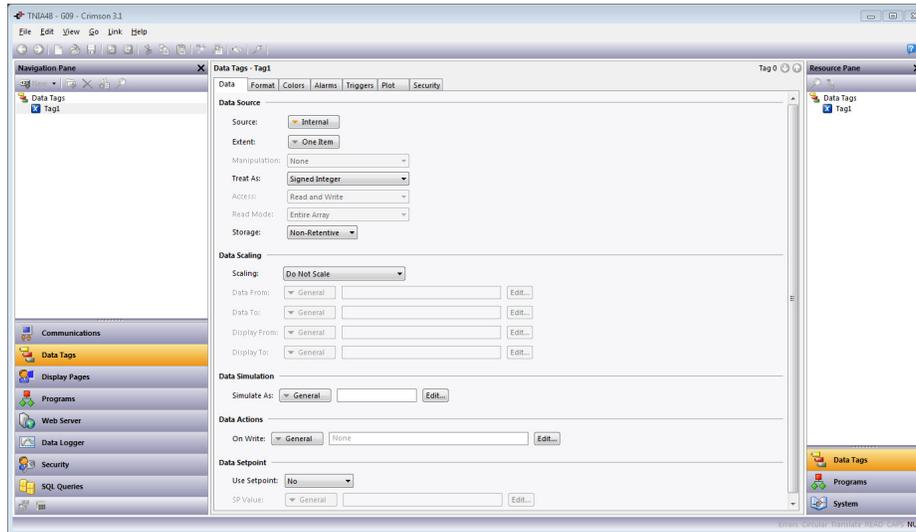

Figure 13.
1. Referring to Figure 13, navigate to the Data Tags section.